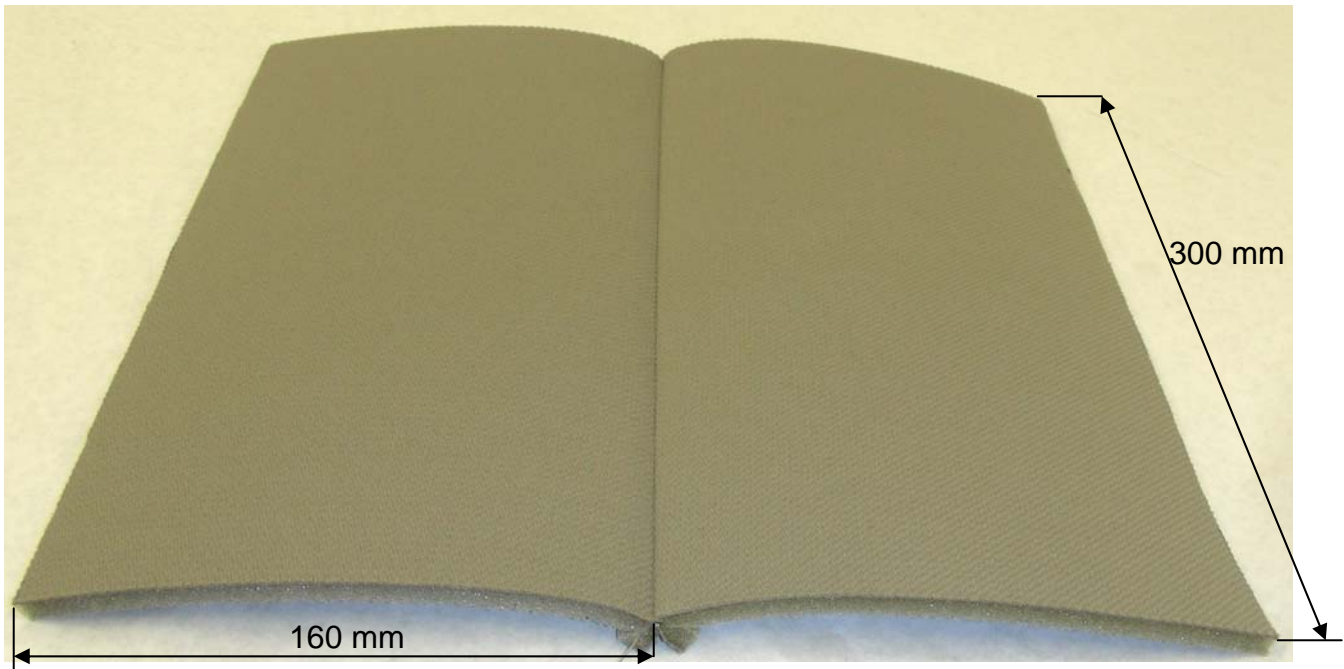

Figure 1 – Example Sewn Sample
2. Prepare the test specimen by sewing each pair of cut samples along 300 mm side as shown in figure 1. Back tack samples to represent the production sewing process. Use a new needle to sew a new set of specimen.